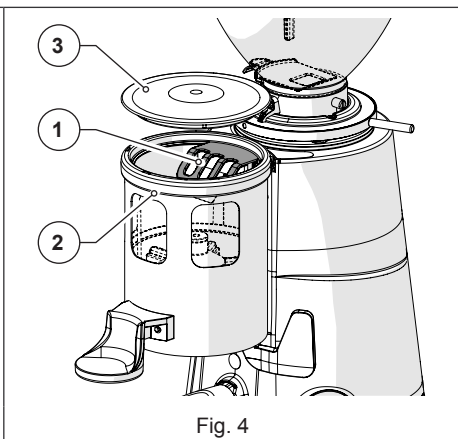

Fig. 4
- **Coffee outlet protection on coffee grinder-dosers (Fig. 4)**